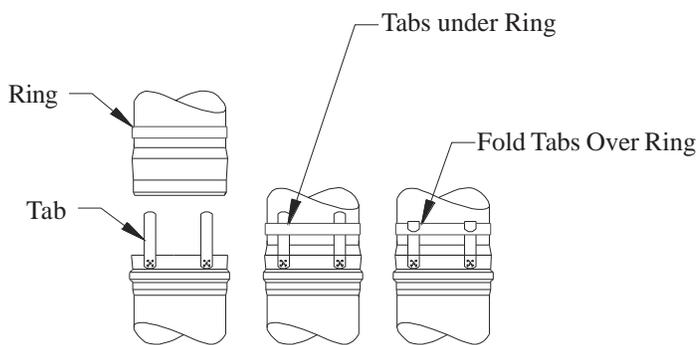

Fig 5. (Ring and Tab Connection)
3. Ring and Tab Joint Assembly (see Fig. 5).